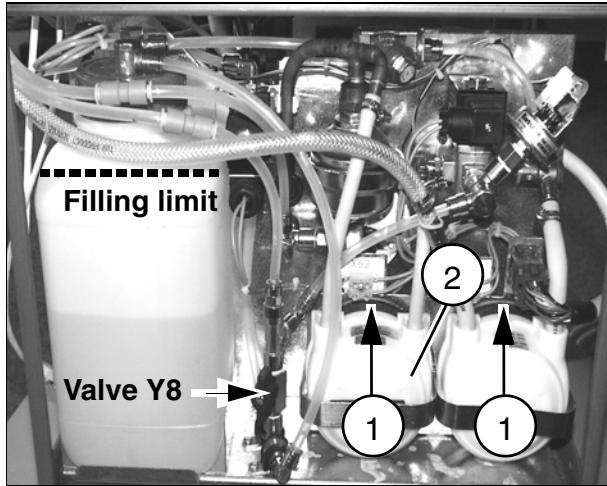

Fig. 10
- Open valve Y8(Fig. 10, 11),
- Open valve Y8 (Fig. 10/11),
- Close valve Y8 (Fig. 10/11);
- Fill the water reserve tank up to the fill line (Fig. 10/ 11) with distilled water.
Emptying the cooling circuit with the old pump (2/Fig. 10)
- Open valve Y8 (Fig. 10),
- Press the black lock (1/Fig. 10/11) upward or downward and remove the hose pump head from the drive.